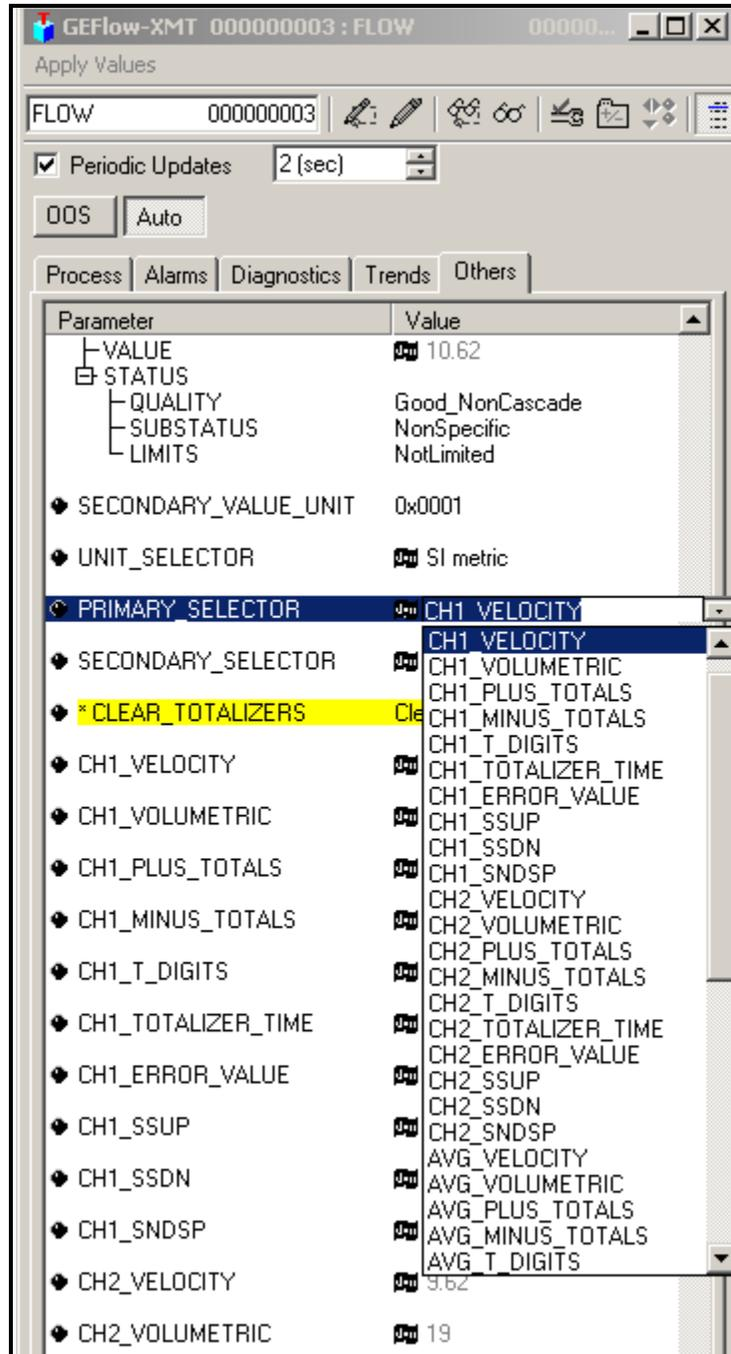

Figure 3: Primary Selector Drop Down List
2. Select the **Others** tab and open the drop down list for the PRIMARY_SELECTOR and SECONDARY_SELECTOR (see Figure 3 on page 4).
3. Choose the unit from the list (see Figure 3 on page 4).